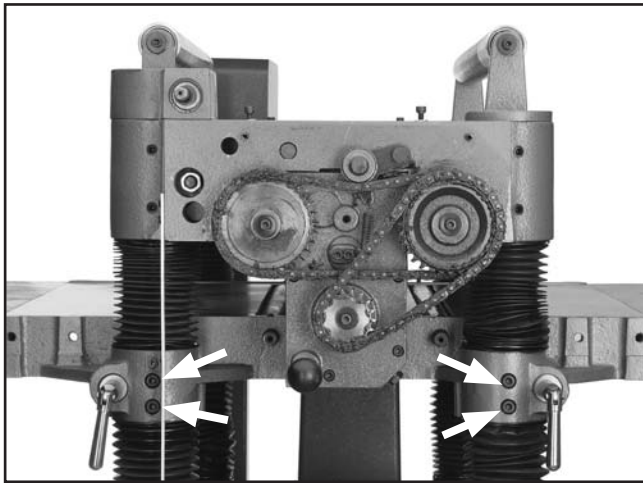

Figure 30. Table micro-adjustment screws.
9. Micro-adjust the table position by loosening the cap screws shown in **Figure 30** and lifting the table upward or downward until the table and cutterhead are in alignment.